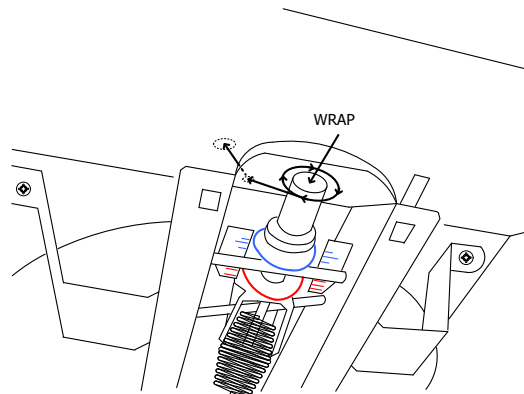

Fig. 4
10. Rout the wires through the 1/4" hole in the scoop, through the 5/16" hole in the housing and into the terminal box (see Fig. 4 & 5).
11. Connect the red wire(s) to terminal 3 and the black wire(s) to terminal 4 (see Fig. 4).